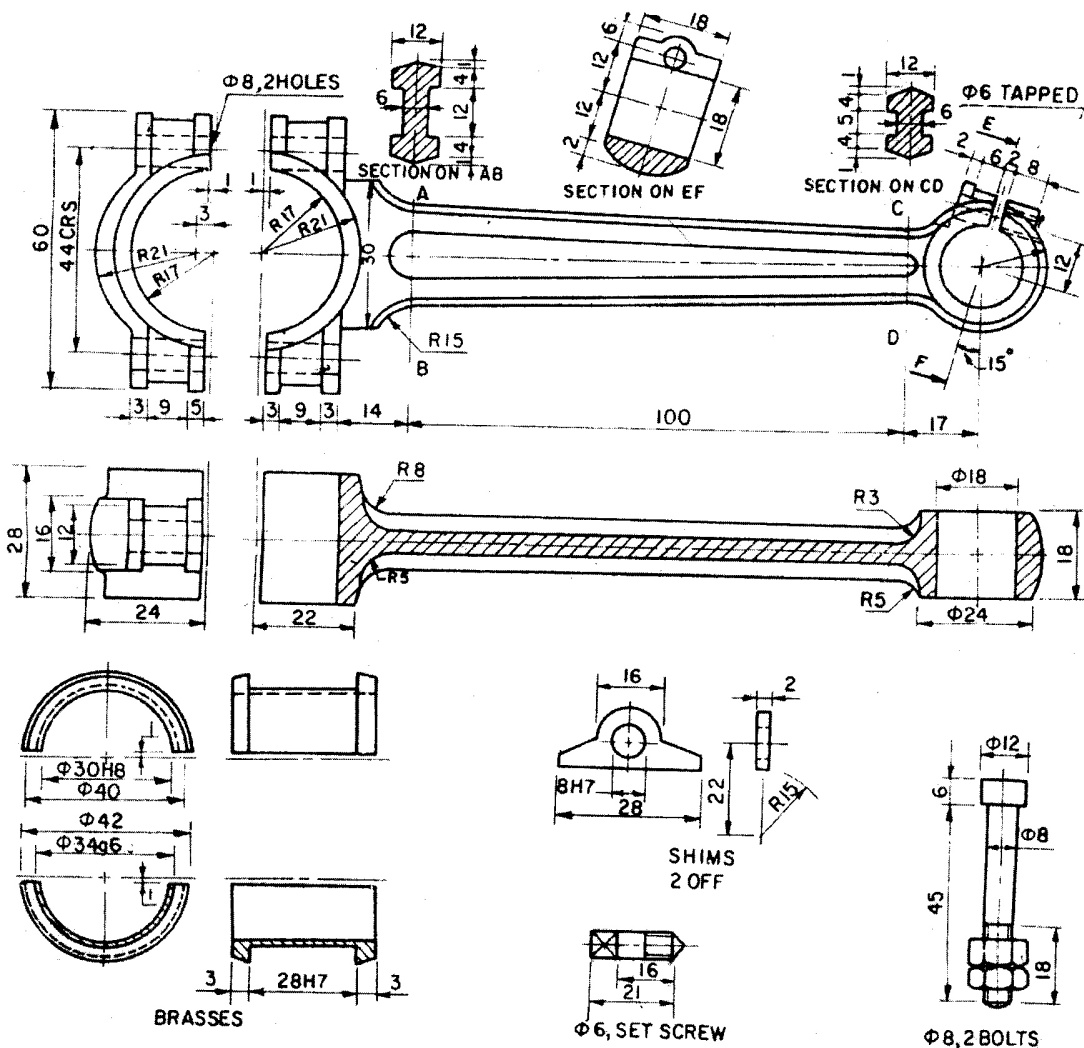

Fig. 2 : Parts of connecting rod of petrol engine
6. Fig. 2 shows details of connecting rod of petrol engine. Assemble all the parts and draw the following views of the assembly to full scale :